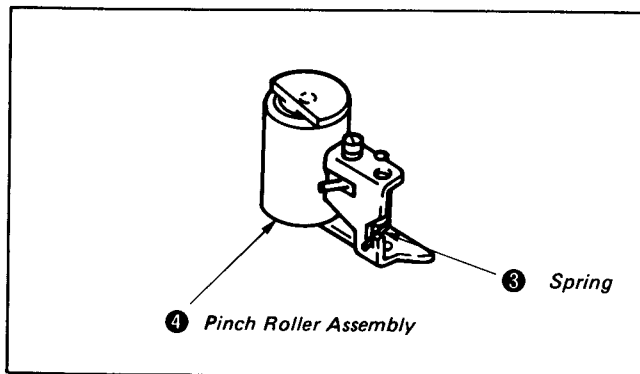

Fig. 8-20.
- 1) Rehook the spring ③. (See Fig. 8-20.)